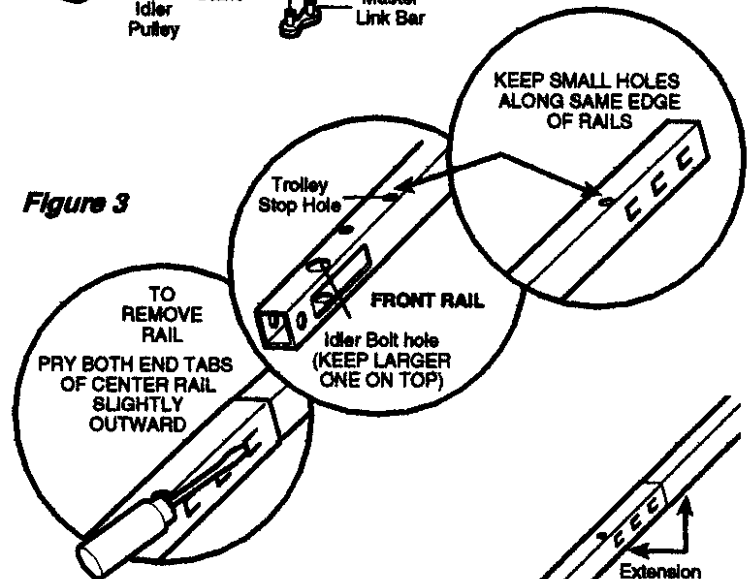

Figure 3
9. Push the trolley back toward the opener head. Disconnect the front rail section by using a screwdriver tip to pry up the outer tab on each side of the rail (Figure 3), then slide it off the center rail. Discard the front rail.